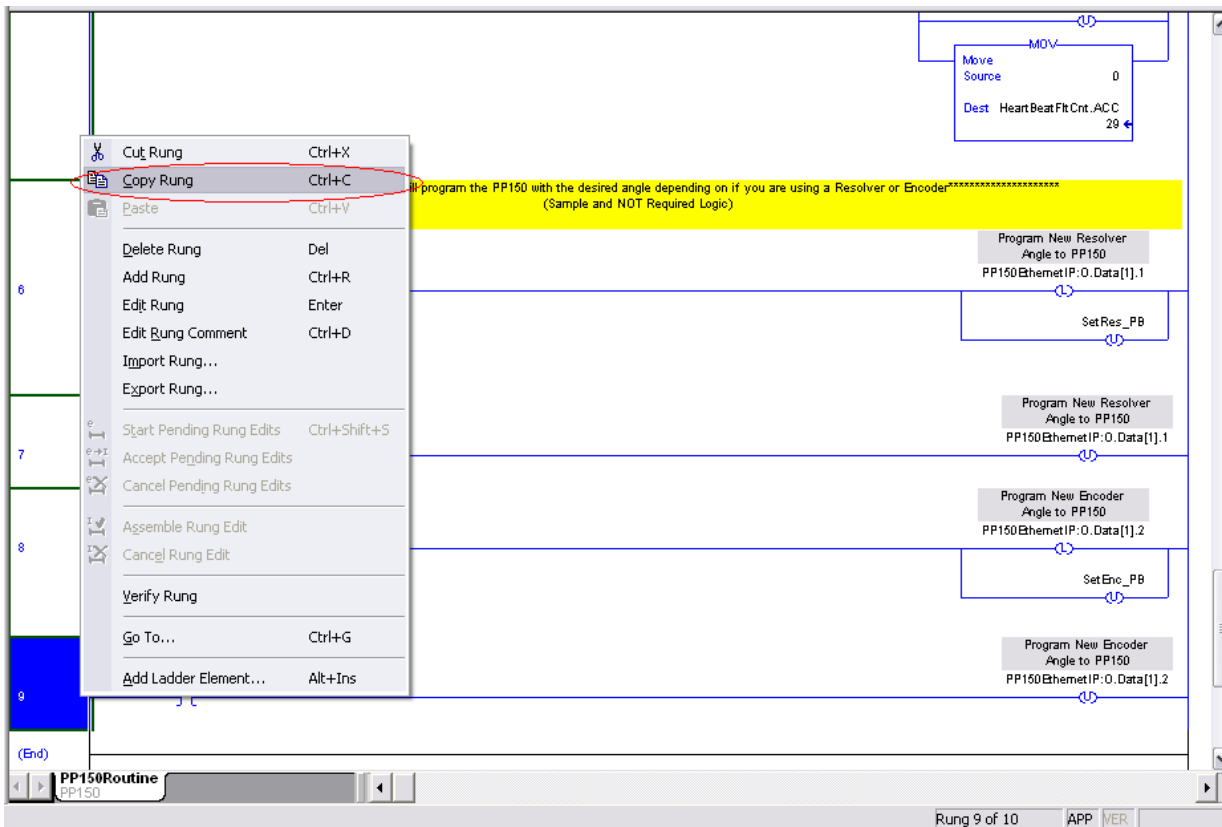

FIGURE 10.14
- P. COPY THE RUNGS 1-9 FROM THE SAMPLE PROGRAM SUPPLIED WITH THE PP150 (SEE EXAMPLE BELOW...FIGURE 10.14)